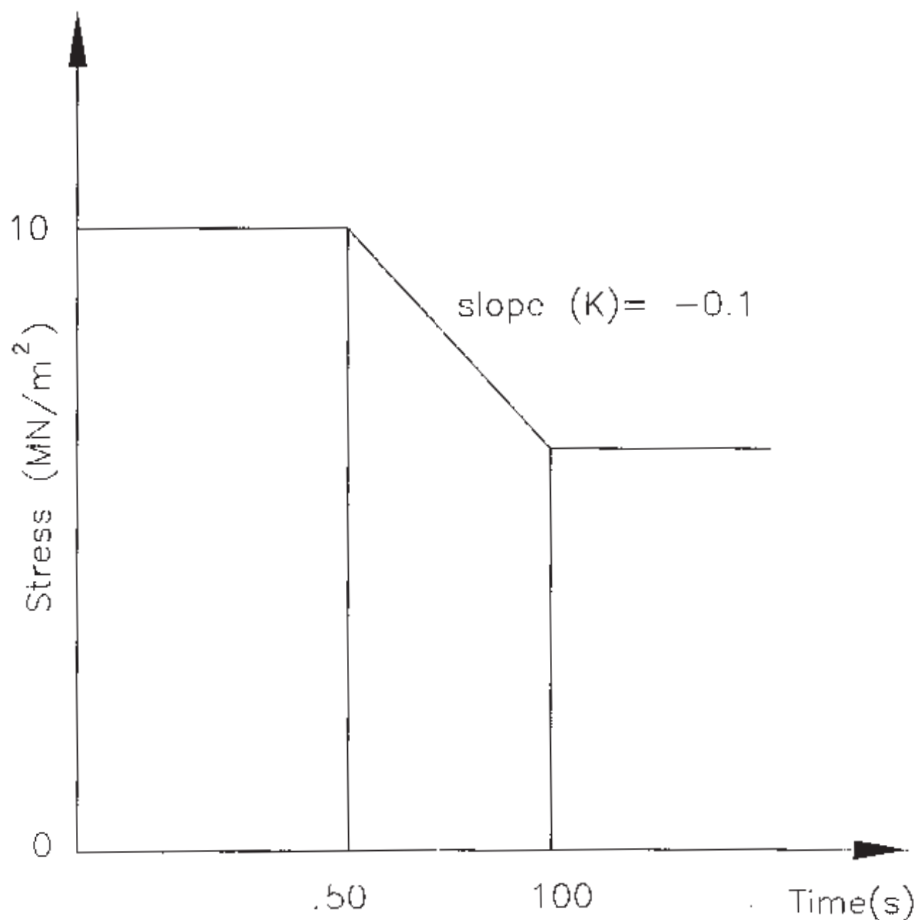

Figure 3
- Q5)** a) The behaviour of a plastic in consideration is according to the Kelvin-Voight model. It is subjected to stress history as shown in fig. 3. Use Boltzman's superposition principle to calculate strain in the material after (i) 90 seconds (ii) 150 seconds. The spring constant is  $12 \text{ GN/m}^2$  & dash pot constant is  $360 \text{ GN-s/m}^2$ . [8]